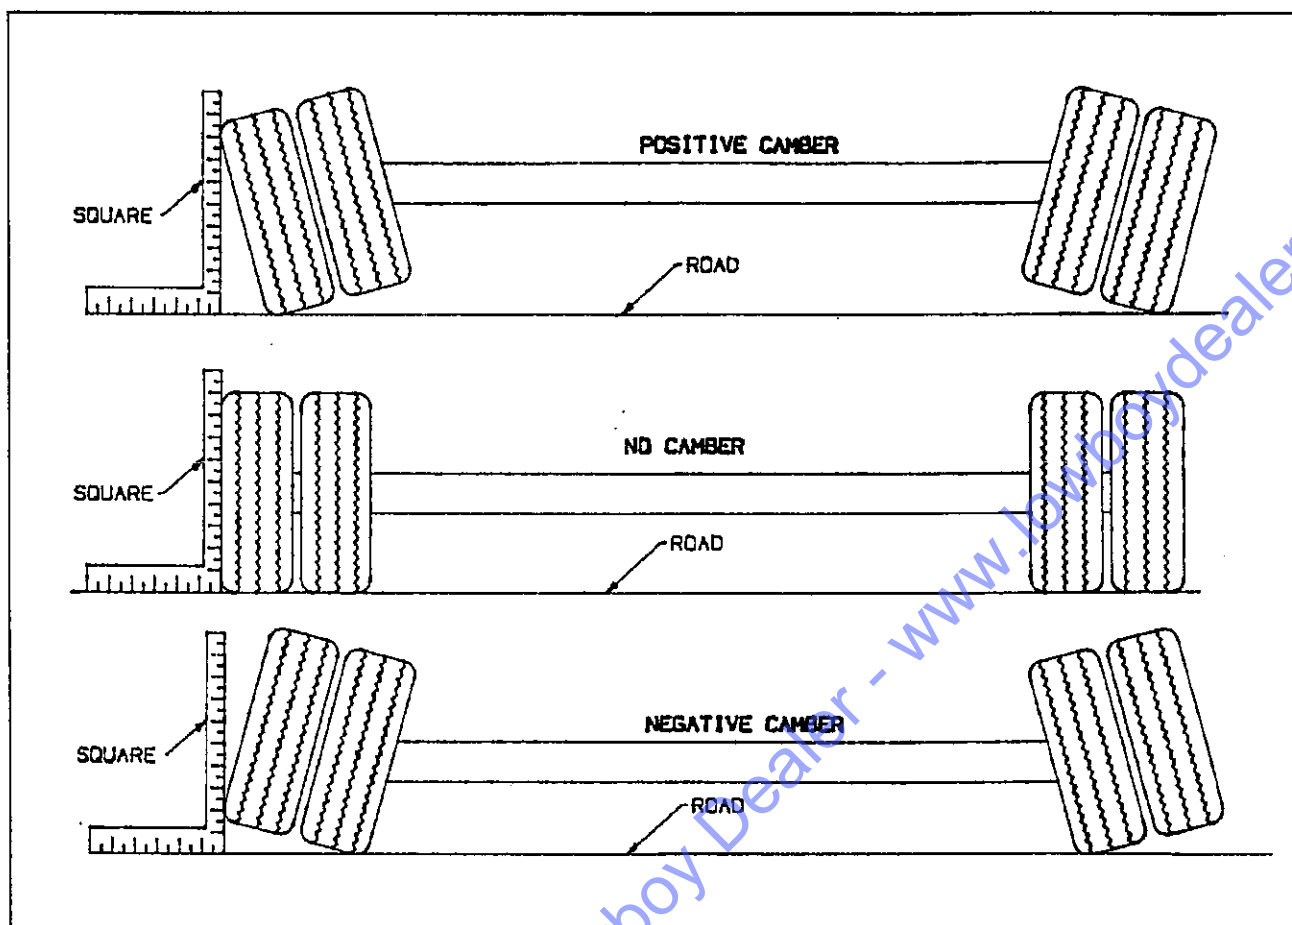

Figure 4-6 Examples of Camber
- Follow the same procedures as in Paragraph 4-8.1 b and c, except place the axle gauge above and below the axle. If gauge point gap is found, the axle has positive or negative camber. The semitrailer axle has no camber from the factory. If it is found to have positive or negative camber, axle replacement is necessary (see Figure 4-6 for examples of camber).